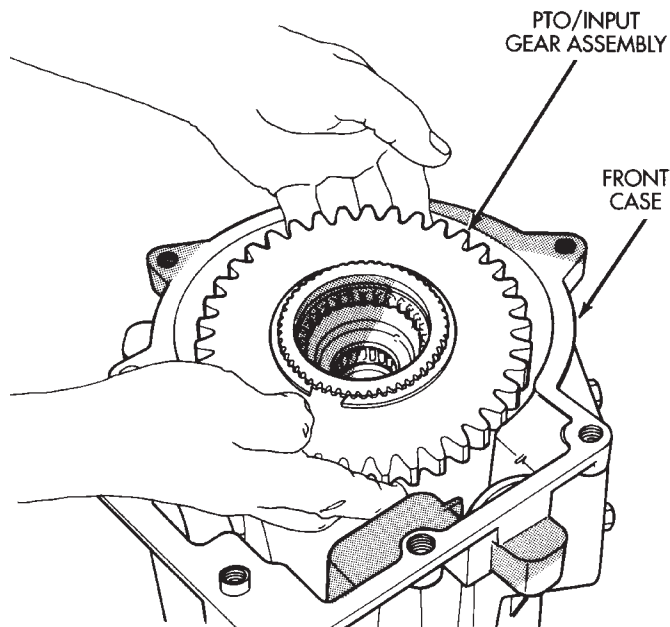
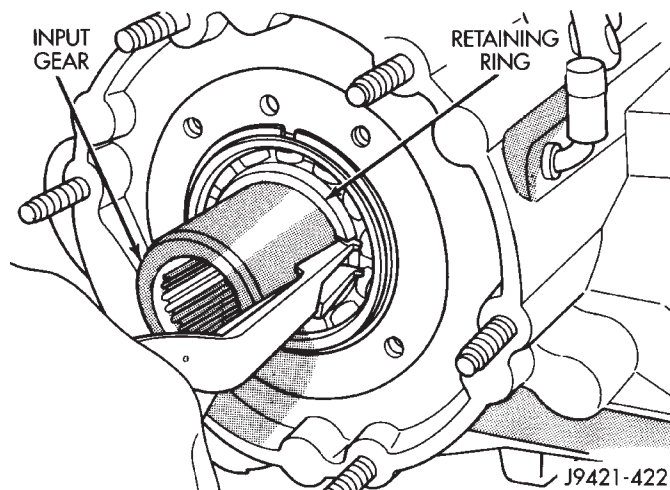

Fig. 54 Installing Input/PTO Gear Assembly In Case
Fig. 55 Installing Input Gear Retaining Snap Ring
- (9) Install input/PTO gear assembly in case (Fig. 54).
- (11) Remove front case from wood blocks and position case so input gear is accessible.
- (12) Install retaining ring on input gear (Fig. 55). **Be sure ring is fully seated in gear groove.**
- (13) Remount front case on wood blocks.